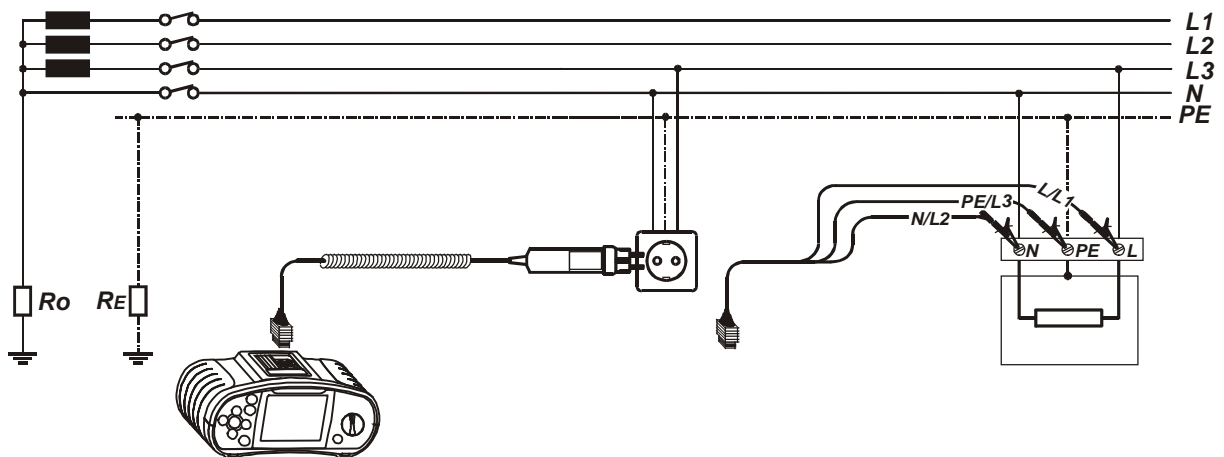

Figure 5.29: Connection of plug cable and universal test cable
Step 3 Follow the connection diagram shown in the figure 5.29 to perform fault loop impedance measurement. Use the **Help** function if necessary.